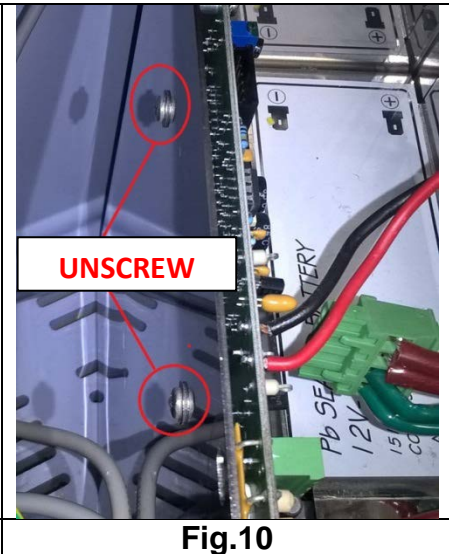

Fig.10
10. Using a PH1 screwdriver, unscrew charge board mounting screws (located on the back side of the PSU) (**Fig.10**). Remove the charge board, and **discard the charge board according to your facility policies.**